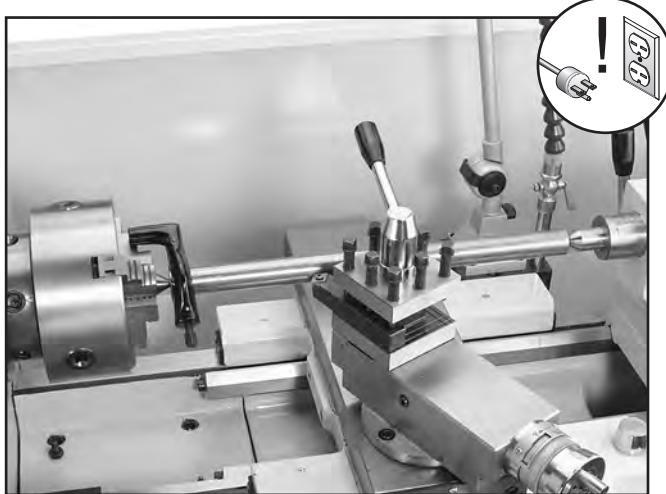

Figure 48. Example of a workpiece mounted between the centers.
5. Seat center firmly into quill by rotating quill handwheel clockwise to apply pressure against workpiece (see the example in **Figure 48**).